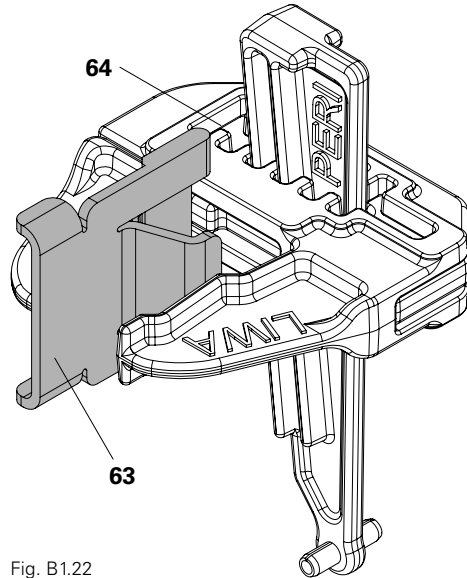

Fig. B1.22
The LIWA DUO adapter can be used with the LIWA wedge clamp compensation (64) and LIWA LRS alignment coupler (65). (Fig. B1.22 + B1.23)